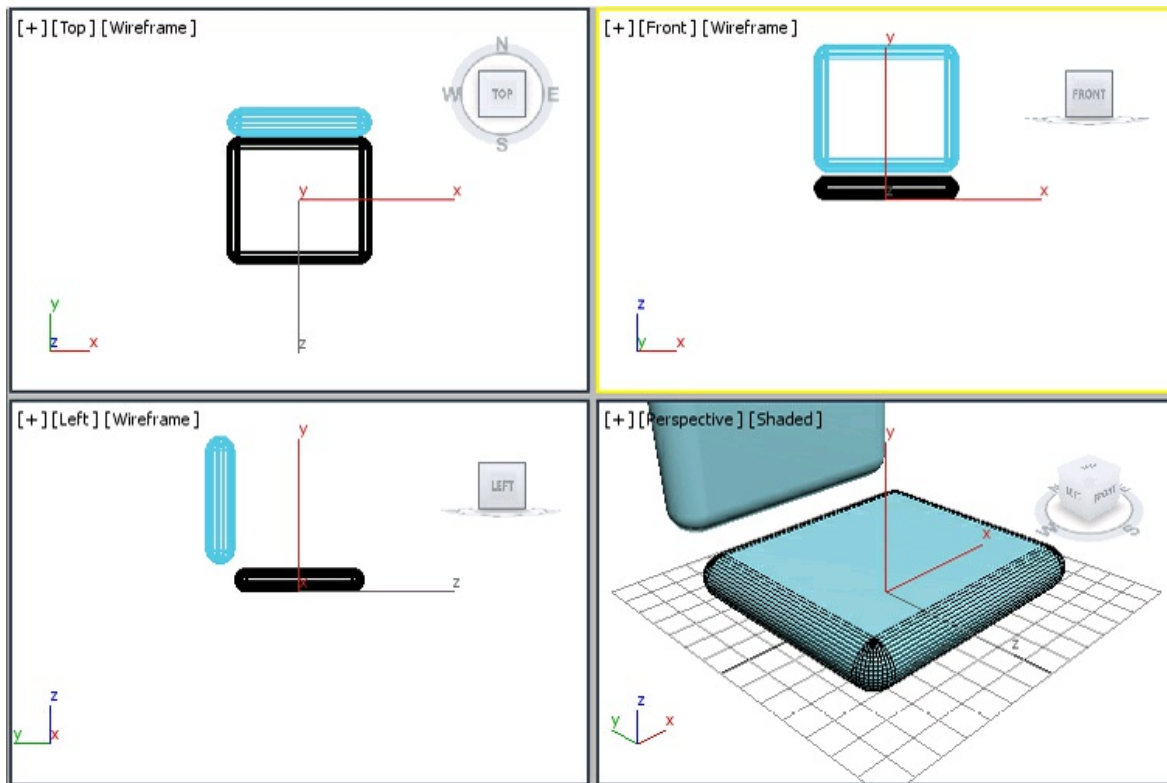

Figure 3-30 *The back support geometry in viewports*
3. Choose the **Create** button; a chamfer box is created. In the **Parameters** rollout, make sure the value in the **Fillet Segs** spinner is **10** and enter **back support** as the name of the chamfer box in the **Name and Color** rollout, refer to Figure 3-30.